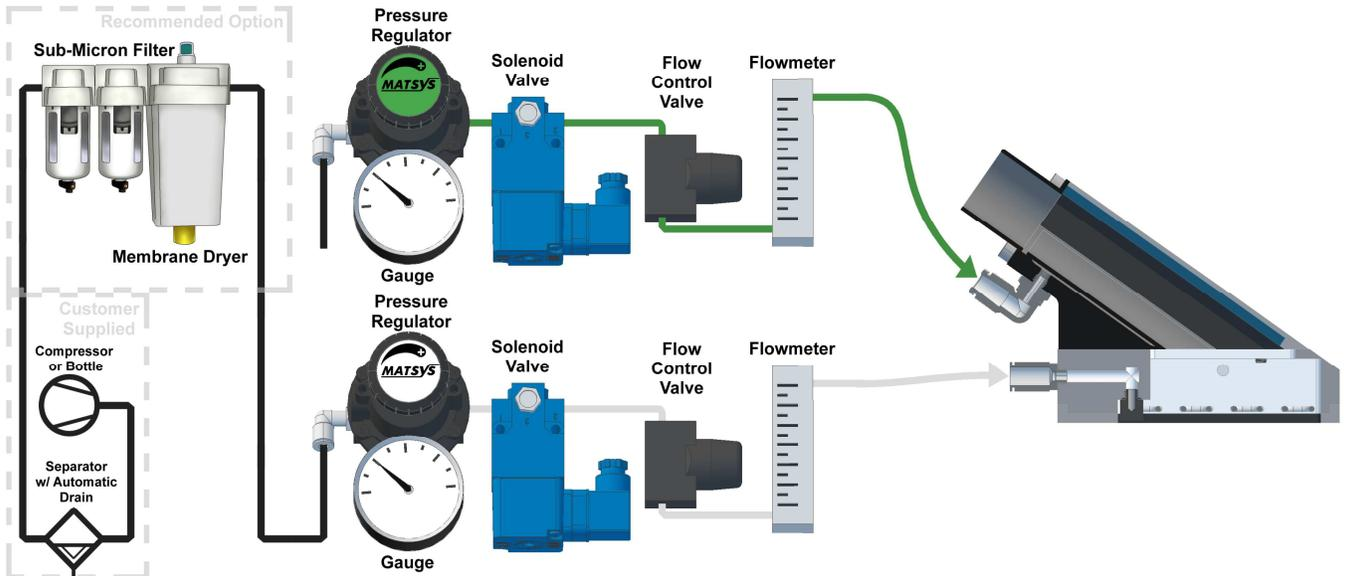

Figure 2. It is recommended that the customer air supply line be plumbed as shown with a vertical inlet pipe to separator, trap, and drain valve.
The most optimal method of fluidizing is to use an inert gas such as Argon, alternatively compressed air can be used when properly treated, dried and filtered. When a compressed air source is used to supply air pressure to the fluidized fill shoe, the gas control supply pressure should be between 30 and 60 psi. The FFS control cabinet will provide instrument quality air to the fluidized fill shoe as long as care is taken to maintain a quality air supply, i.e. air that is free of oil, dirt, and moisture. To prevent moisture build up in the gas lines it is common practice to install an appropriately sized after-cooler and moisture separator system on a shop air compressor. As an extra precaution, it is recommended that a secondary liquid separator and trap be installed ahead of the FFS control cabinet as shown in Figure 2.
4. Make sure that all tubing is connected properly (refer to Figure 2).